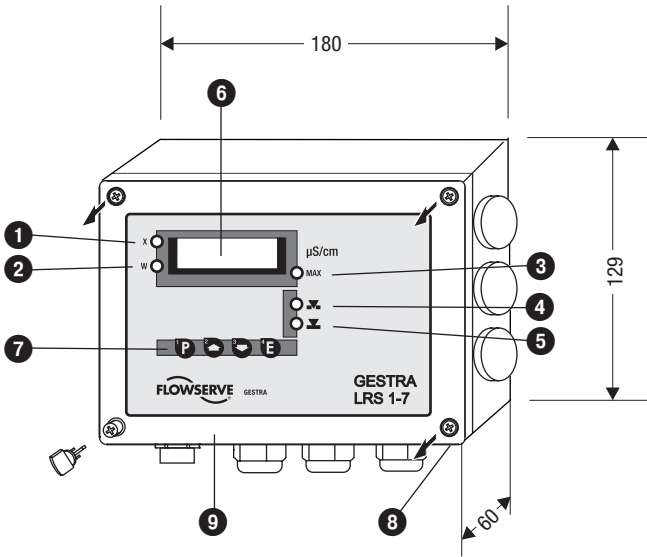

Fig. 2
1. Undo cover screws **8** and remove the housing cover **9**. (Fig. 2, 3)